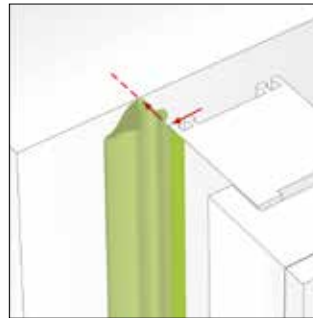

Fig. 1
- Bonding in 'E' format (Fig. 1):- peel off the protective split liner of the self-adhesive on the side of the membrane facing the frame, allowing some slack in the membrane retained within the joint.
- Using 'E' format, the window should be installed first. Remove the narrow part of the split liner from the self-adhesive backing. on the reverse (non-printed) face of the membrane and locate the membrane against the internal face of the window with a minimum of 10 mm contact all around (See Fig. 1). It is possible to apply in a continuous length by folding the membrane back on itself at the corners or alternatively, apply four separate strips allowing a 50 mm overlap at each corner and at the start/end sections. Consolidate the bond using a seam roller.